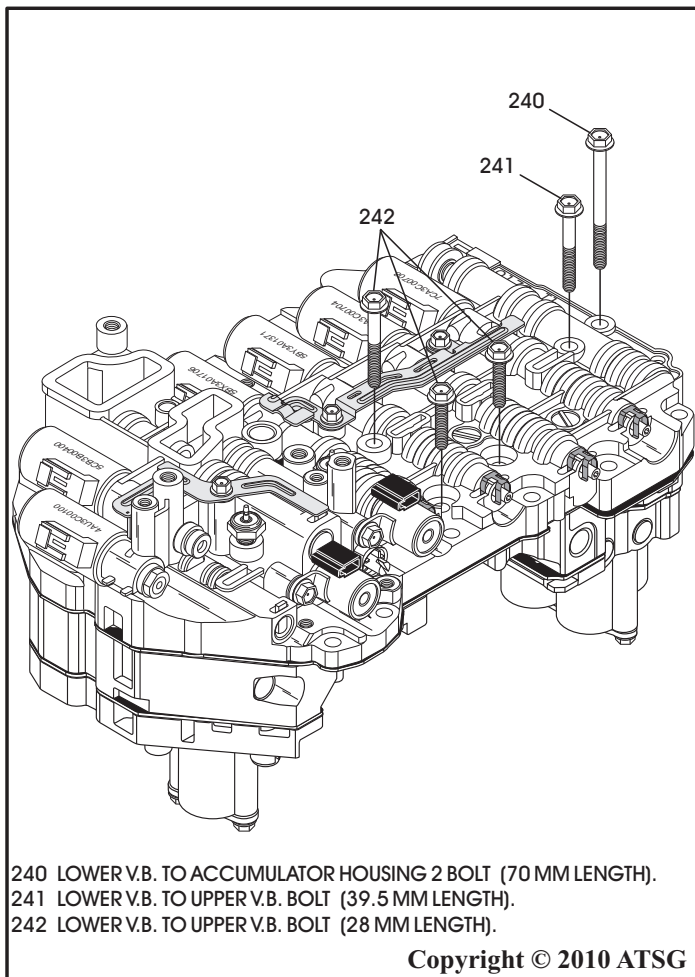

Figure 166
4. Turn the valve body assembly over, as shown in Figure 166, and install the five lower valve body to upper valve body retaining bolts.